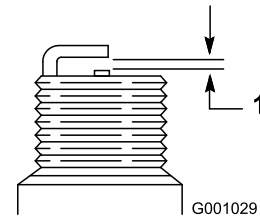

Figure 45
4. Set the gap between the electrodes on a new spark plug at 0.76 mm (0.030 inch) as shown in Figure 45.